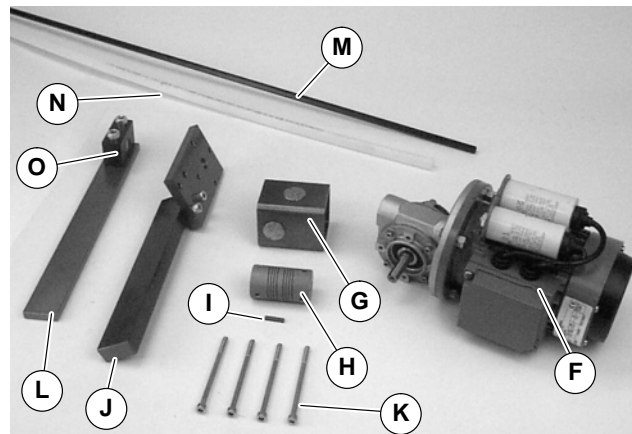
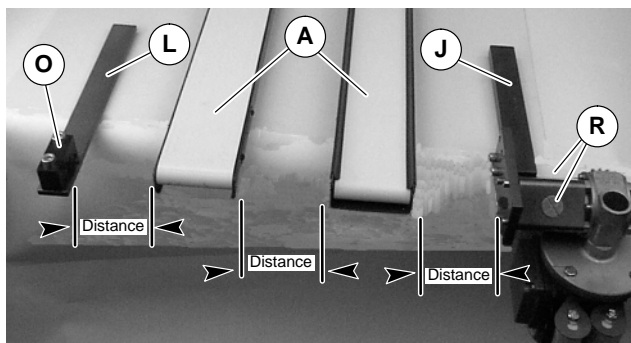

Figure 2
Figure 8
1. Gather components (Figure 2)
8. Measure distance between motor mounting plate (Q) and bearing block (O).
9. Cut hex shaft (M of Figure 2) to measured distance plus 54 mm.
10. Align conveyors between gearmotor support assembly (J of Figure 8) and bearing support assembly (L).
NOTE: Do not secure the conveyors (A of Figure 8) to mounting surface.
11. Cut shaft cover (N of Figure 2) into pieces to match each distance (Figure 8) minus 1.5 mm.
12. Remove inspection plugs (R of Figure 8).